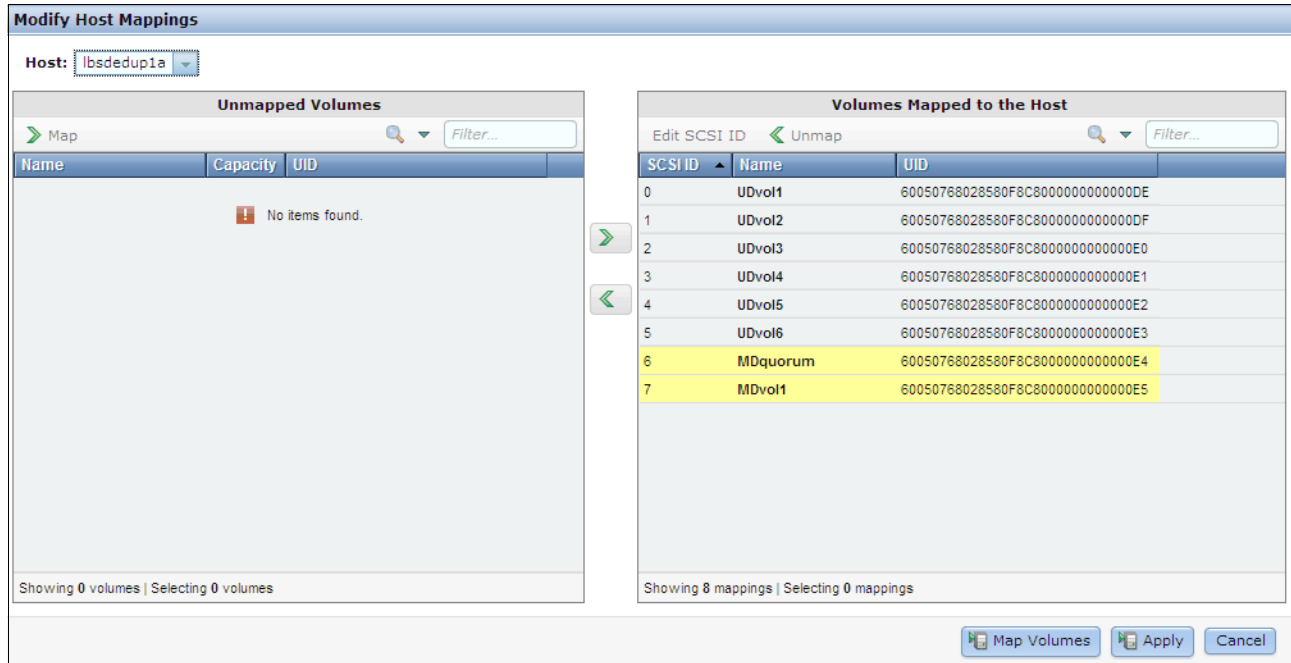

Figure 9-17 Modify mapping
3. The Modify Host Mapping window opens. Click the **Host** drop-down menu to select the name of the host that you want to map volumes to. If the volumes are not highlighted in yellow, select volumes from the Unmapped Volumes pane and click the arrow (>) to move the volumes to the Volumes Mapped to the Host pane. Click **Map Volumes** or **Apply** (Figure 9-17).